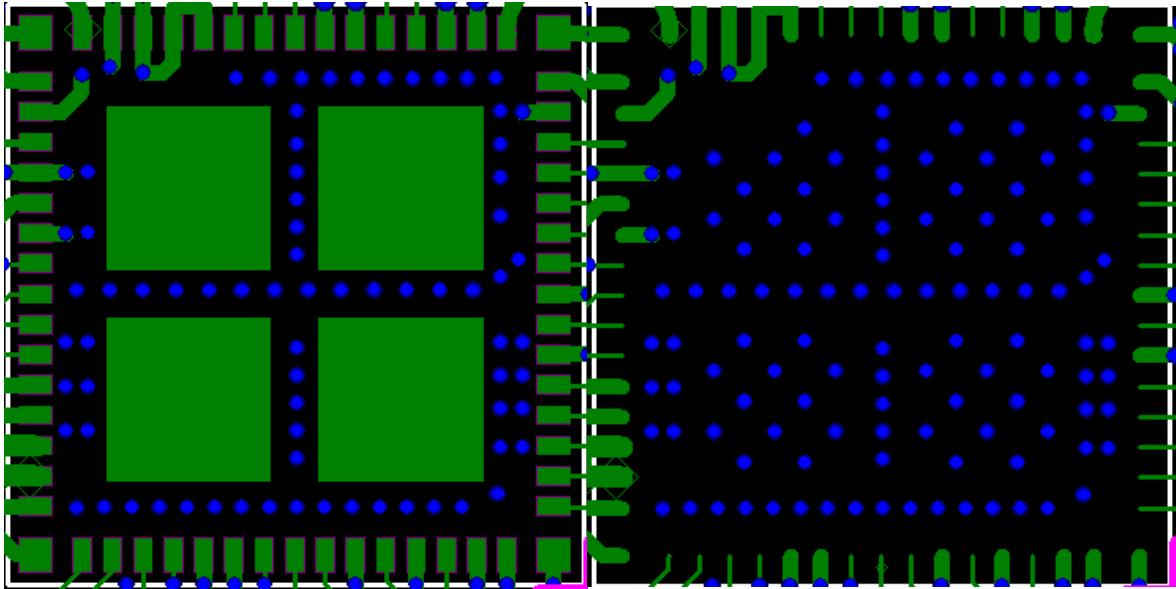

Figure 6-4. Block of Ground Pads on Bottom Side of Package
**6.2.2** We recommends using one big ground pad under the module with vias all the way to connect the pad to all ground layers (see Figure 6-4).